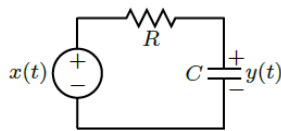

Figure P2.3-3
2.3-3 Consider the simple RC circuit shown in Fig. P2.3-3. Let $R = 1 \text{ k}\Omega$ and $C = 1 \text{ nF}$.